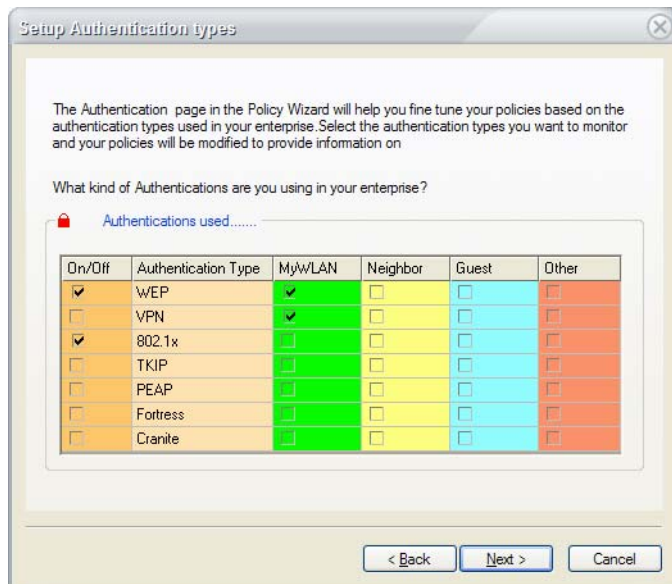

Figure 12-15: Selecting authentication methods
- 3) Click **Next**. The Setup Authentication Types dialog box appears. See Figure 12-15.